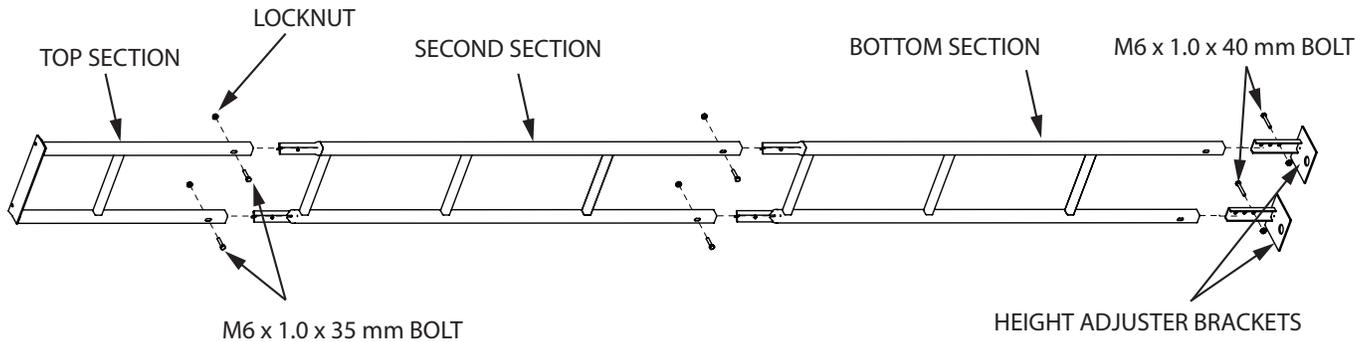

FIGURE 12
SEE FIGURE 12
20. With all ladder sections assembled together on ground, secure all sections together using (4) provided M6 x 1.0 x 35 mm bolts and locknuts. **SEE FIGURE 12**
21. Attach the (2) height adjuster feet (TWR41) to the bottom ladder section using (2) provided M6 x 1.0 x 40 mm bolts and lock nuts. **SEE FIGURE 12**